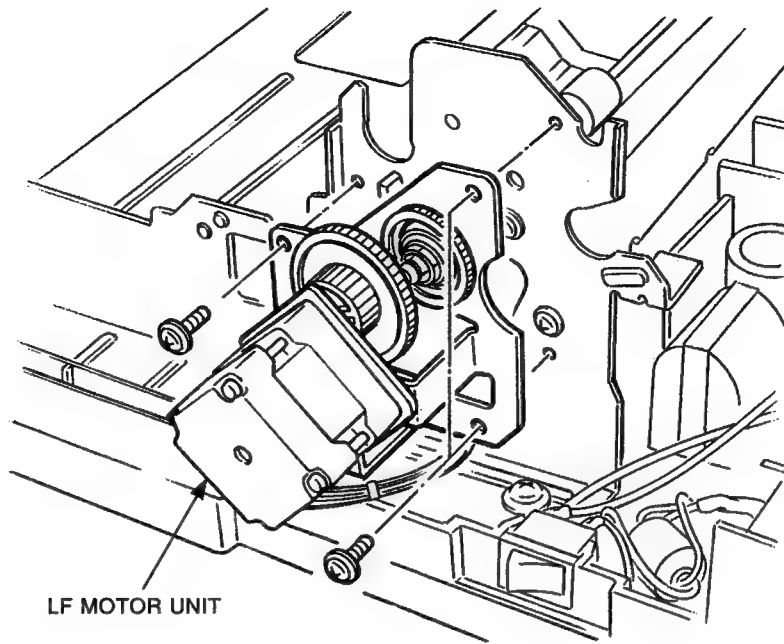

Figure 3-52 LF Motor Unit
2. Remove the LF motor unit by removing the three mounting screws (see Figure 3-52).